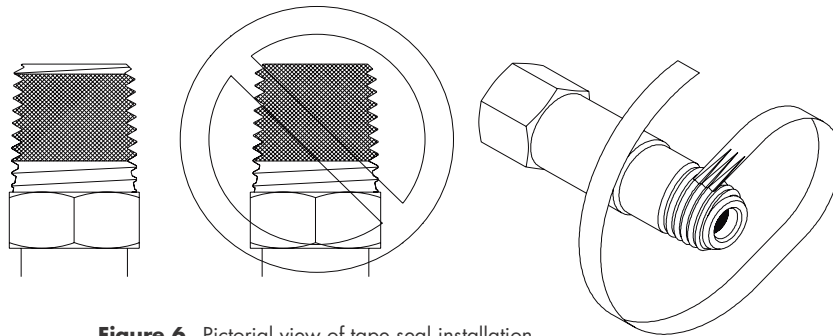

Figure 6 - Pictorial view of tape seal installation
- c. Be sure that all fittings are secure and leak tight. Teflon tape should be used on pipe threads. See Figure 6.
Use an open-end wrench, not a pipe wrench, to install accessories to the autoswitch system. **ALWAYS hold the bulkhead fitting with a wrench when installing the accessories to the autoswitch system. Do not allow the bulkhead fitting to turn; otherwise, connections inside the box may be loosened.** NPT connections require the use of Teflon tape on the threads to make a gas tight seal. (See Figure 6.) On stainless steel connections, the thread sealant helps prevent the connections from galling together when tightening or loosening. CONCOA uses Teflon tape on all of its NPT connections. Follow these rules when using Teflon tape.
Inspect the NPT threads and if necessary, clean the fitting to remove any dirt or thread sealant that remains on the threads. Start the Teflon tape on the second thread as shown in Figure 6; make sure the tape does not overlap the end of the fitting. As the tape is wrapped in the direction of the thread spiral, pull tightly on the end of tape so that the tape conforms to the threads. Wrap the tape around the threads twice. Cut off the excess tape and press the end firmly into the threads.